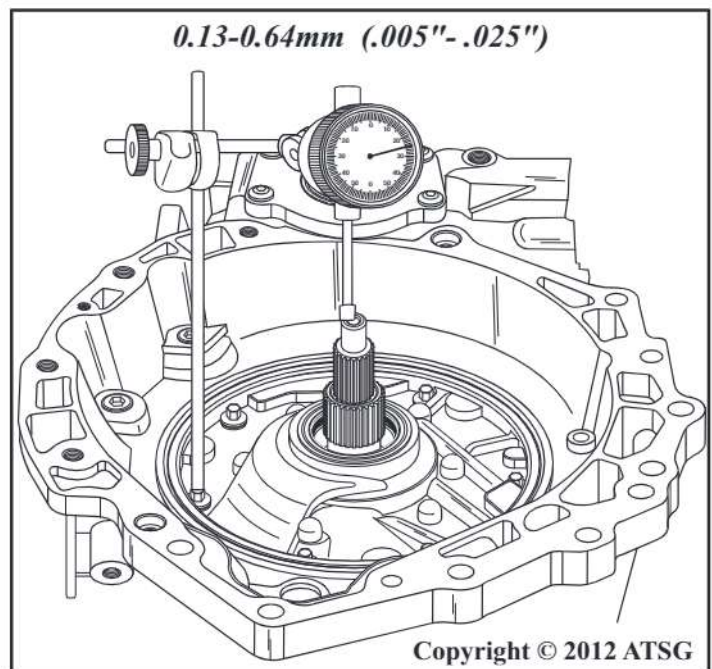

Figure 266
68. Install dial indicator on transaxle, as shown in Figure 266, to verify transaxle end-play which should be 0.13-0.64mm (.005"- .025").